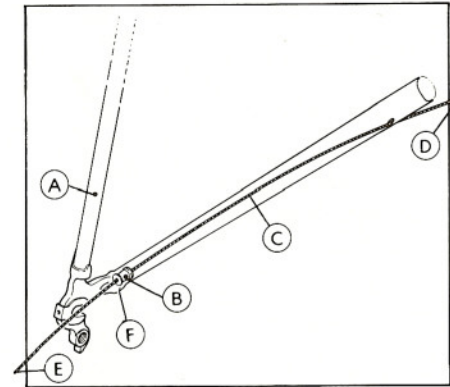

Figure 8. Internal Routed Cable Replacement
**Cable Replacement (for cable routed inside chainstay).** Remove old cable. Unfasten cable clamp bolt on rear derailleur and pull cable through hole (see Figure 8).